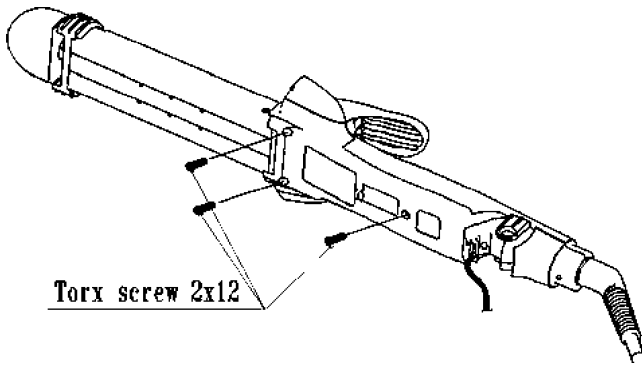

Figure 5
1. Remove torx screws(2*12) 3 pieces from Steam pipe holder B as shown in Figure 5.